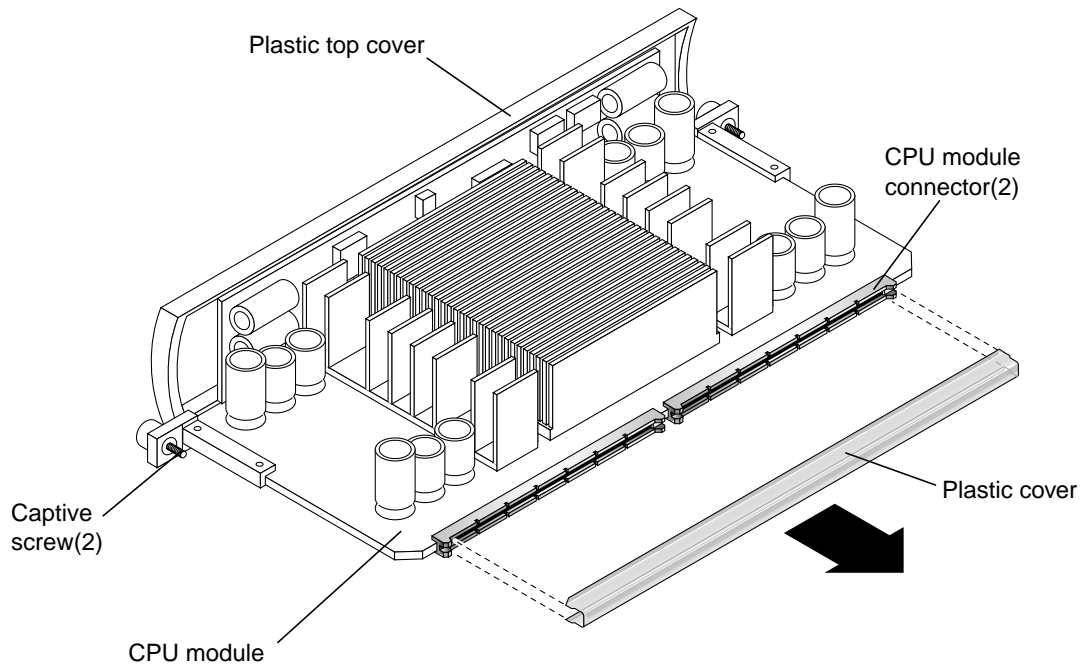

FIGURE 10 Removing the Plastic Cover from the CPU Module Connectors
Caution – Do not touch the board for the CPU module or its components. Touch only the captive screws and plastic top cover of the module to avoid damaging module components by electrostatic discharge (see FIGURE 10).
Caution – As you remove the module from the shroud, handle it only by its captive screws. Do not touch the connectors on the bottom edge of the module or the electrical components on the module. The connectors and the components for the module are easily bent or damaged by improper handling and by electrostatic discharge (see FIGURE 10).
1. Remove the plastic cover from the CPU module connector (see FIGURE 10).